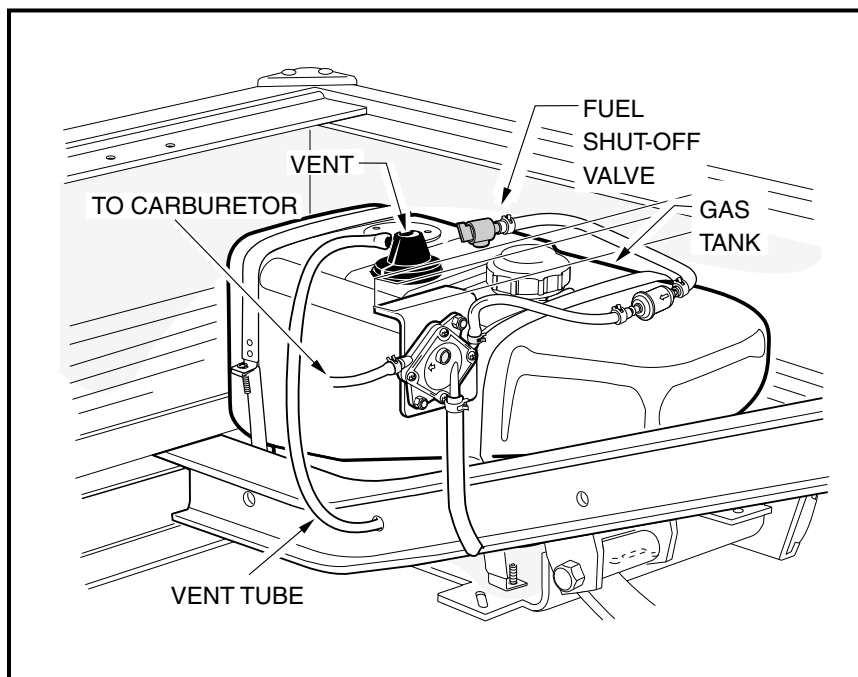
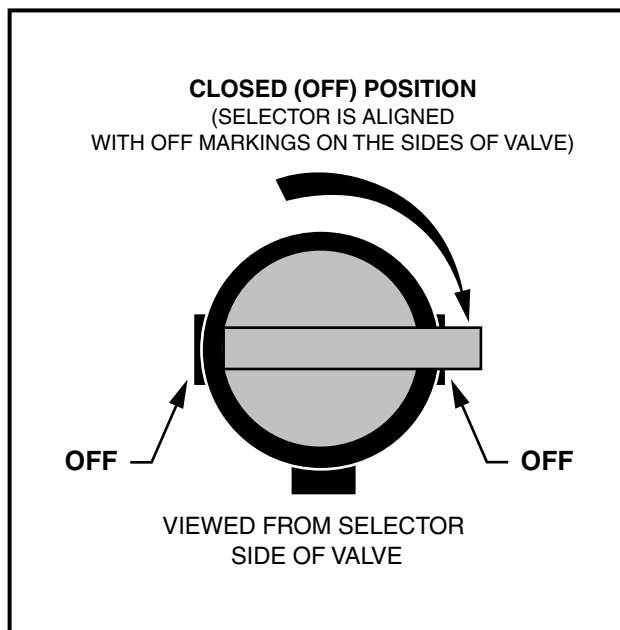

Figure 14-21 Fuel Tank
Figure 14-22 Closed Fuel Shut-off Valve
4. Turn fuel shut-off valve to the closed (OFF) position (**Figure 14-22, Page 14-32**).
The fuel shut-off valve is located on top of the fuel tank (**Figure 14-21, Page 14-31**). The fuel shut-off valve should always be turned to the closed (OFF) position during vehicle storage, towing or trailering (**Figure 14-22, Page 14-32**). The fuel shut-off valve should also be closed (OFF) before performing maintenance or service procedures unless the engine will be run as part of the procedure.